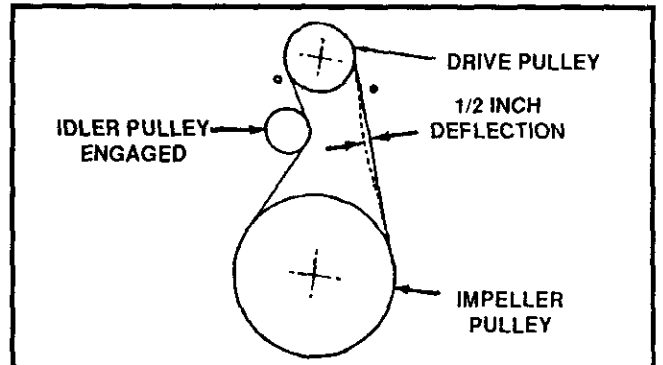

FIG. 5
- Loosen the nut on the idler pulley (See FIG. 5) and move the pulley toward the belt about 1/8".
- Press the auger drive lever. Check the tension on the belt (**opposite idler pulley**). The belt should deflect about 1/2" with moderate pressure (See FIG. 5).